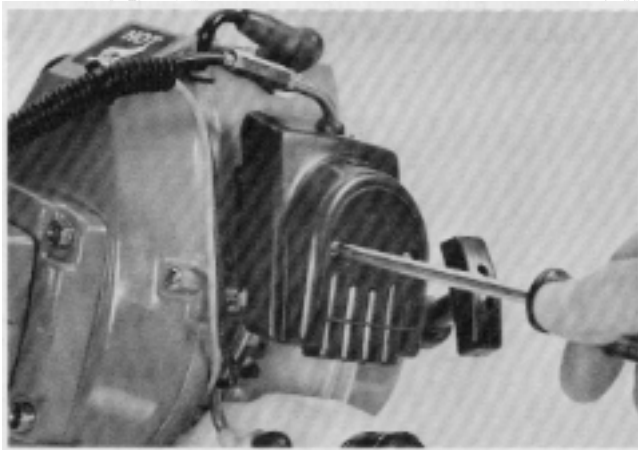

Figure 17
1. Remove the 2 screws with flat washers and lock washers, securing the air cleaner assembly and remove the assembly. See Fig. 17.